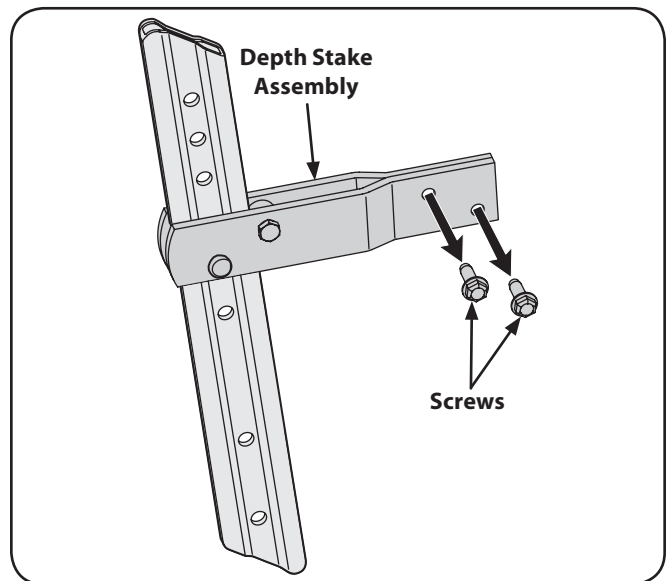

Figure 3-5
- Remove the two screws from the depth stake assembly. See Figure 3-5.